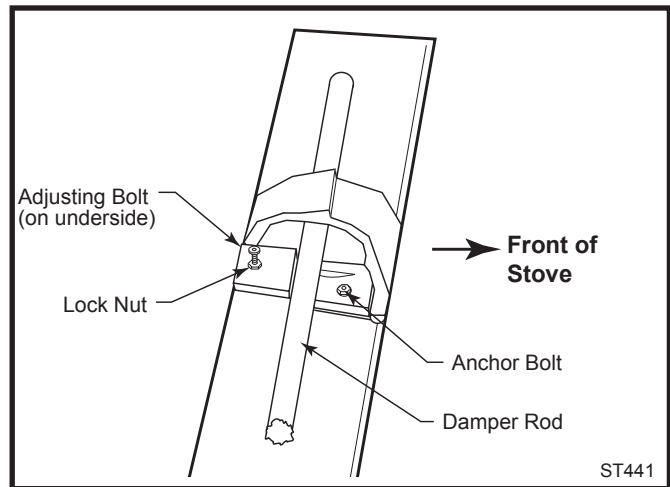

Fig. 32 Damper adjustment.
1. From inside the stove, first loosen and then remove the two (2) nuts on the threaded rods that secure the top plate to the inner top of the stove.
3. Loosen the adjusting bolt's lock nut. (Fig. 32)